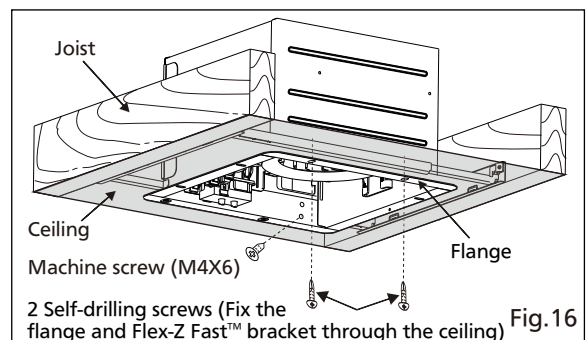

Fig. 16
4. Secure the fan body to Flex-Z Fast™ bracket by using 2 self-drilling screws, plug connector to receptacle and secure the fan body to adaptor by using machine screw (M4X6). (Fig.16)